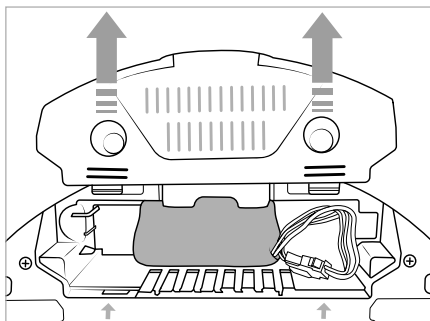

Fig. 26
- 1) Pull the battery compartment cover **17** off the appliance (see Fig. 26).